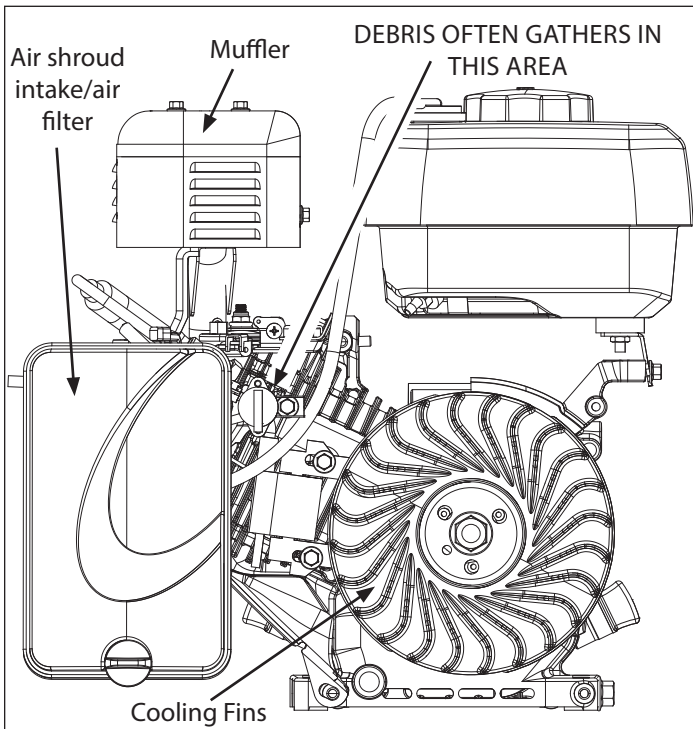

FIGURE 8 - Clean Debris from Engine Cooling Fins
**NOTE: Engine air shroud removed from Figure 8**
The engine requires air flow to cool itself and for combustion. Before each use, clean any debris from the unit especially from around the air shroud intake, air filter, and muffler. Every 100 hours, remove the engine air shroud and clean out any debris from the engine cooling fins (**SEE FIGURE 8**). We recommend having this service performed by an authorized dealer.